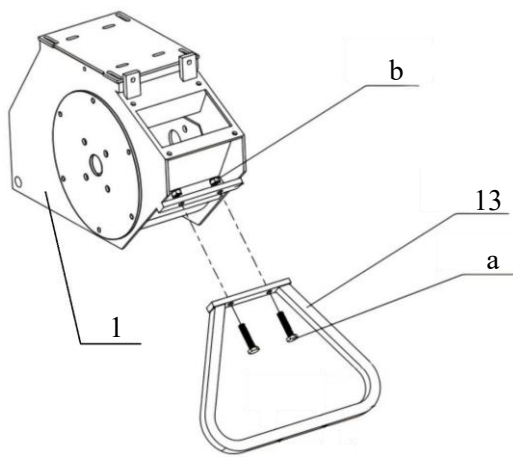

Fig. 3
- Align the support foot (13) with the chipping chamber (1) as illustrated in Fig. 3.